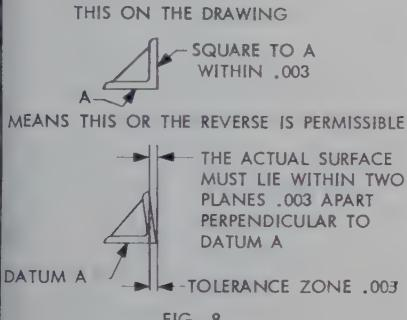

FIG. 8
**Squareness:** Squareness is the condition of surfaces which are at right angles ( $90^\circ$ ) to each other. Squareness is controlled by specifying the permissible variation on the drawing or by shop-run tolerances. See Fig. 8 as an example of how two planes are tolerated.